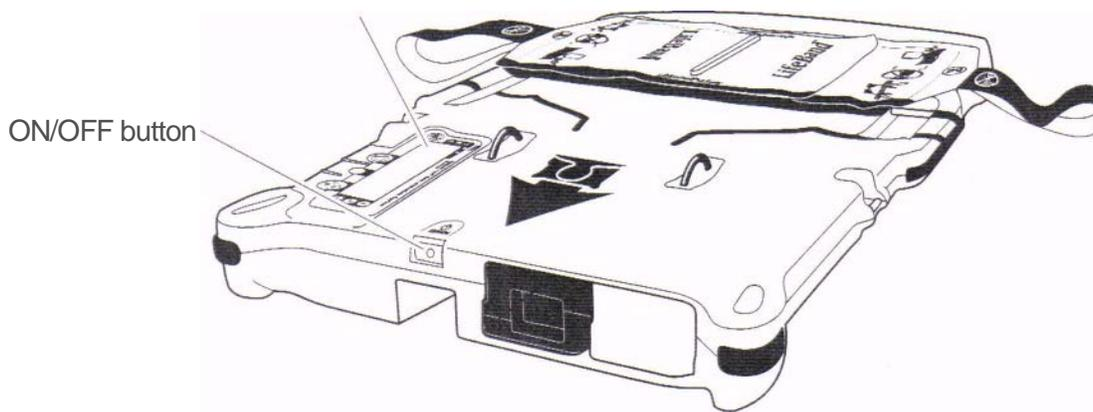

Figure 3-1 ON/OFF Button Location
1. Power up the AutoPulse Platform. The ON/OFF button is located on the top ("head") edge of the AutoPulse Platform (see Figure 3-1).